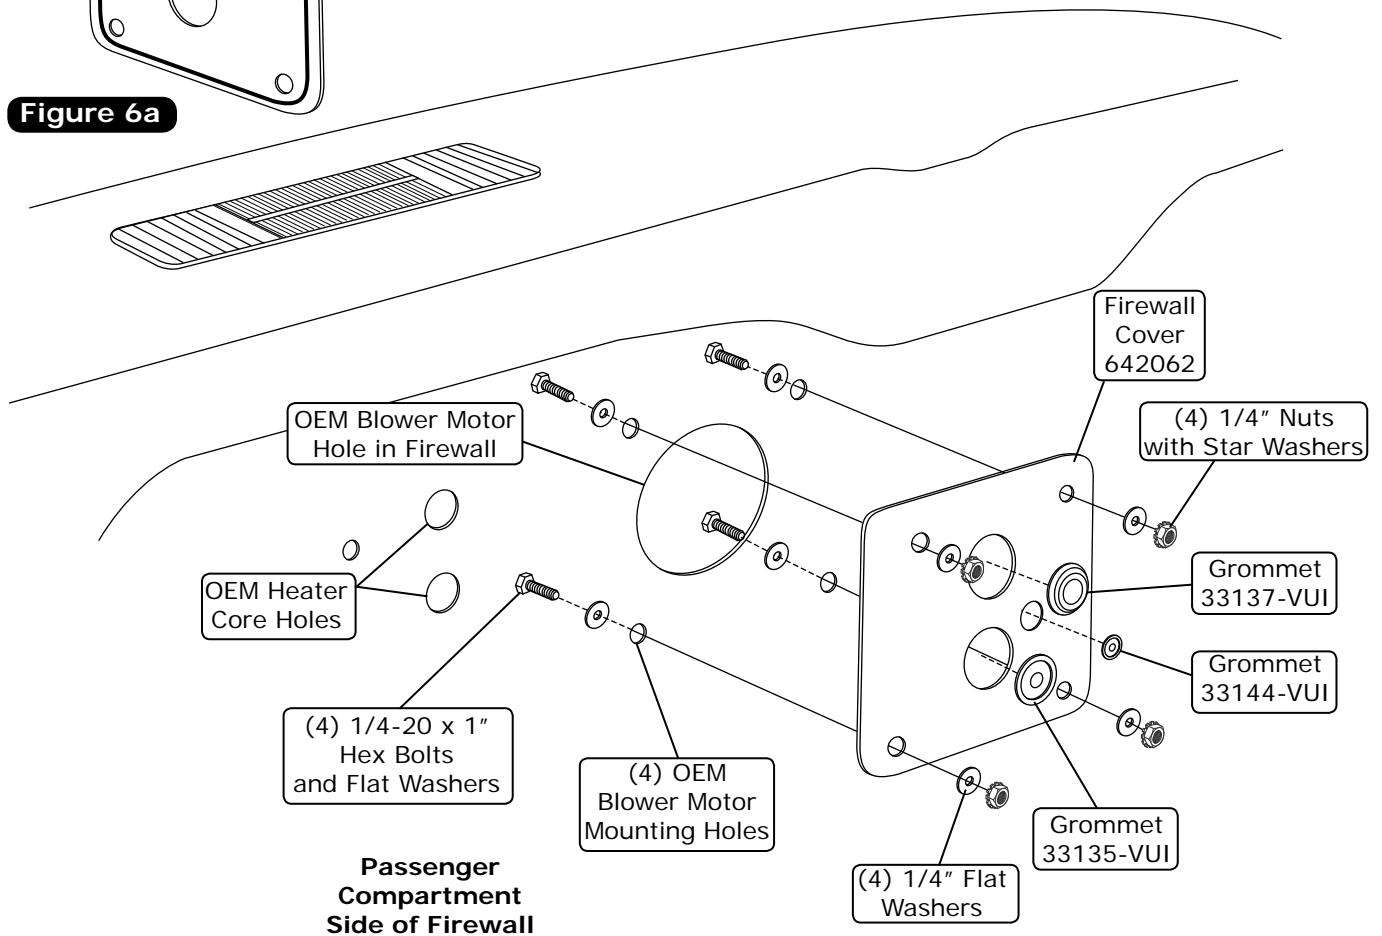

Figure 6
3. Secure the firewall cover to the firewall using (4) 1/4-20 x 1" hex bolts, flat washers and nuts (See Figure 6, below). **NOTE: Firewall cover installs from inside passenger side compartment.**